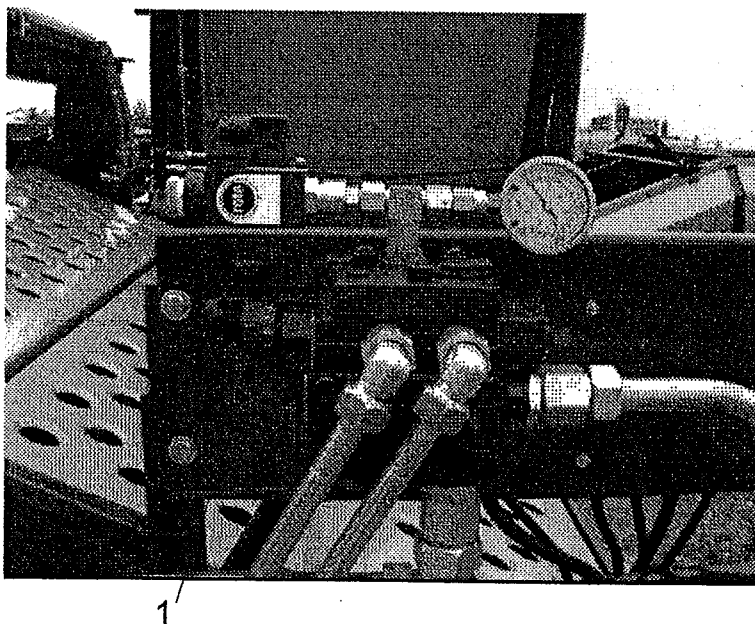

Fig 8.4
Proclean – the speed of this unit is controlled by a manual knob on the valve mounted at the rear, left hand side of the machine (Fig 8.4 item 1)